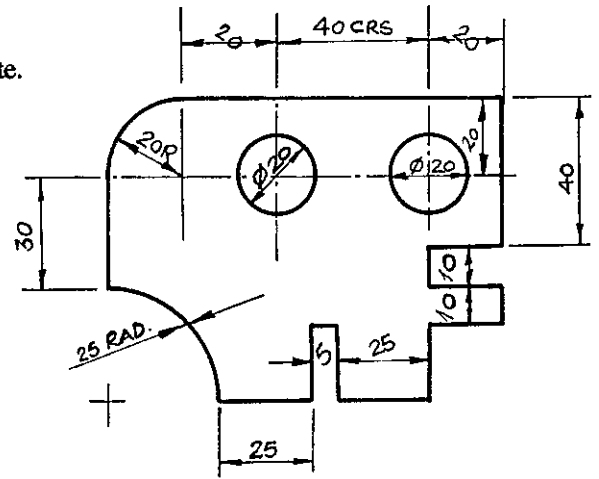

FIG. 4
4. (a) Fig. 4 shows an **incorrectly** dimensioned template.